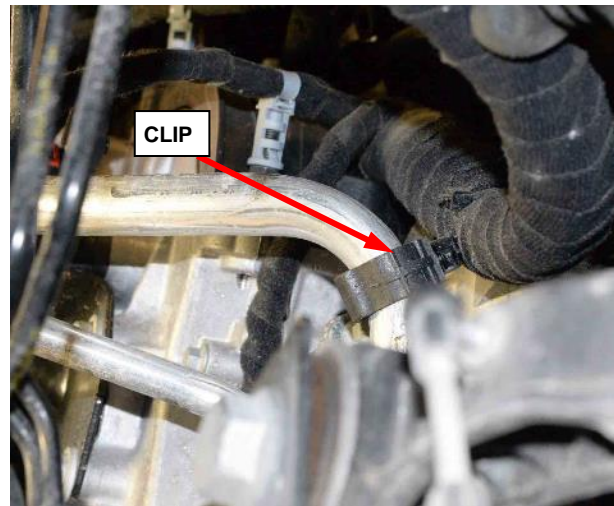

Figure 13 – A/C Pipe to Harness Clip
19. Disconnect the clip holding the harness to the A/C pipe (Figure 13).
40. Connect the clip holding the harness to the A/C pipe (Figure 13).